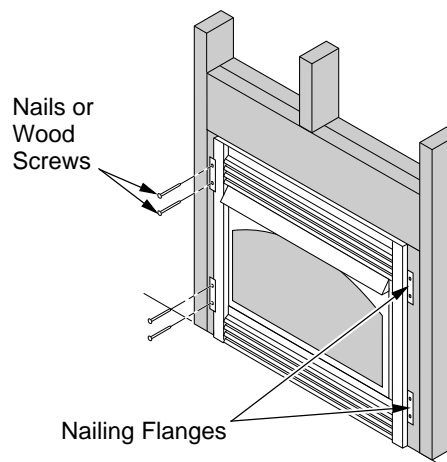

Figure 15 - Attaching Fireplace to Wall Studs
7. Attach fireplace to wall studs using nails or wood screws through holes in nailing flange (see Figure 15).